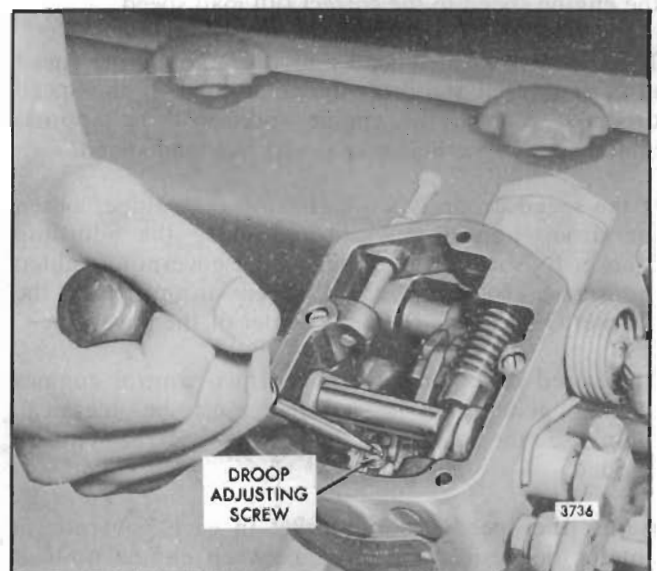

Fig. 7 - Adjusting Speed Droop
4. Loosen the droop adjusting bolt on former units or the screw on current units. Move the droop bracket so that the screw is midway between the ends of the slot in the bracket. Tighten the screw (Fig. 7).